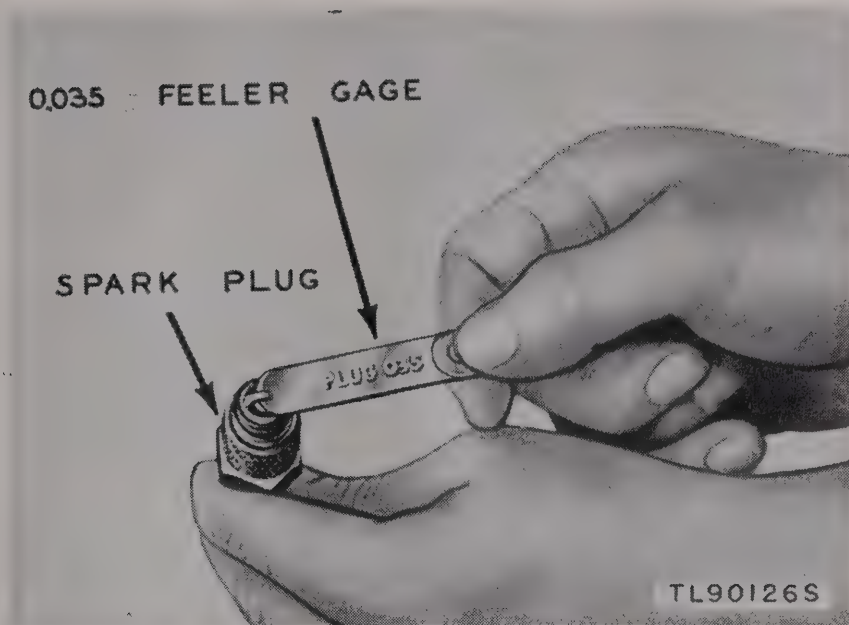

Figure 28. Checking spark plug gap.
b. CLEANING AND INSPECTING. If the spark plug points are wet, it indicates that the engine is being operated with too rich a fuel mixture or the ratio of gasoline to oil is not correct. In this case, clean the spark plug, check the gap, and reinstall. Make up a correct mixture of gasoline and oil and carefully set the carburetor mixture when operating. Clean the spark plug with solvent (SD) and set the gap to 0.035 inch (fig. 28). Make the adjustment by bending the side electrode only. If the porcelain is cracked or broken, replace the plug. If the gasket is not in good condition, replace with new gasket. When replacing the plug, use a Champion J-8 spark plug (or one in equivalent heat range). Remove and discard the terminal nut before installing the shield cap.